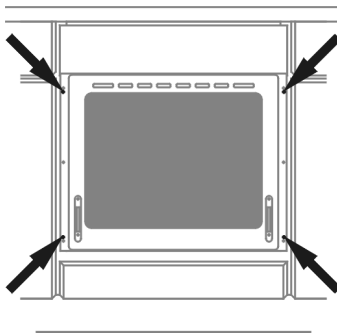

Fig. 4
4. Carefully insert in the oven into previously prepared opening in furniture unit (cabinet), protect against sliding out using four screws in the locations shown in Figure 4.